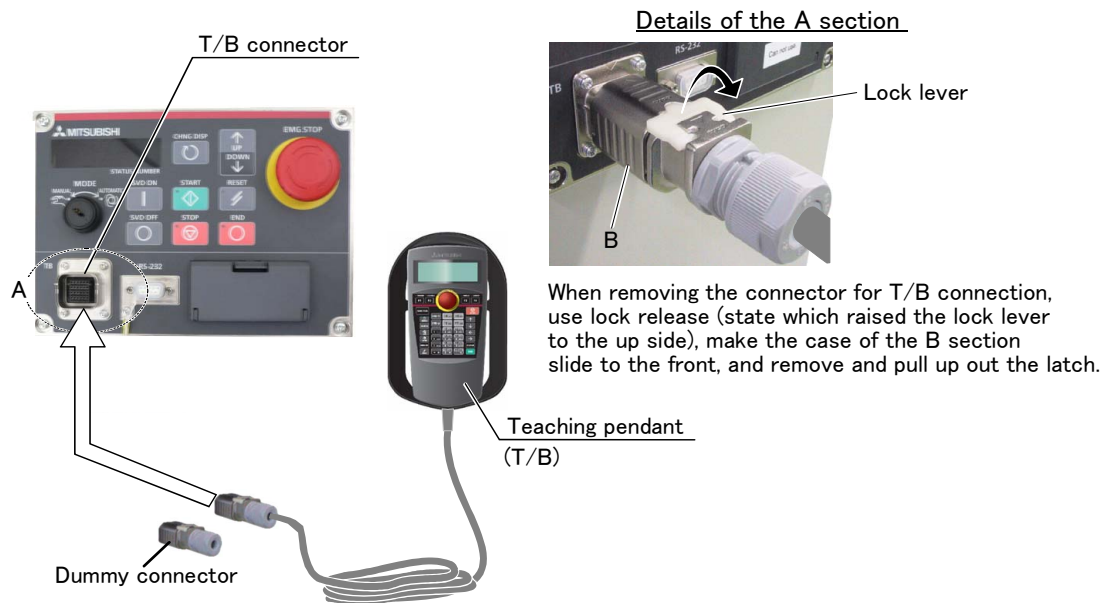

Fig.2-7 : Installing and removing the T/B
- 2) Connects T/B connector to the robot controller. Use as the upper surface the lock lever shown in Fig. 2-7, and push in until there is sound.